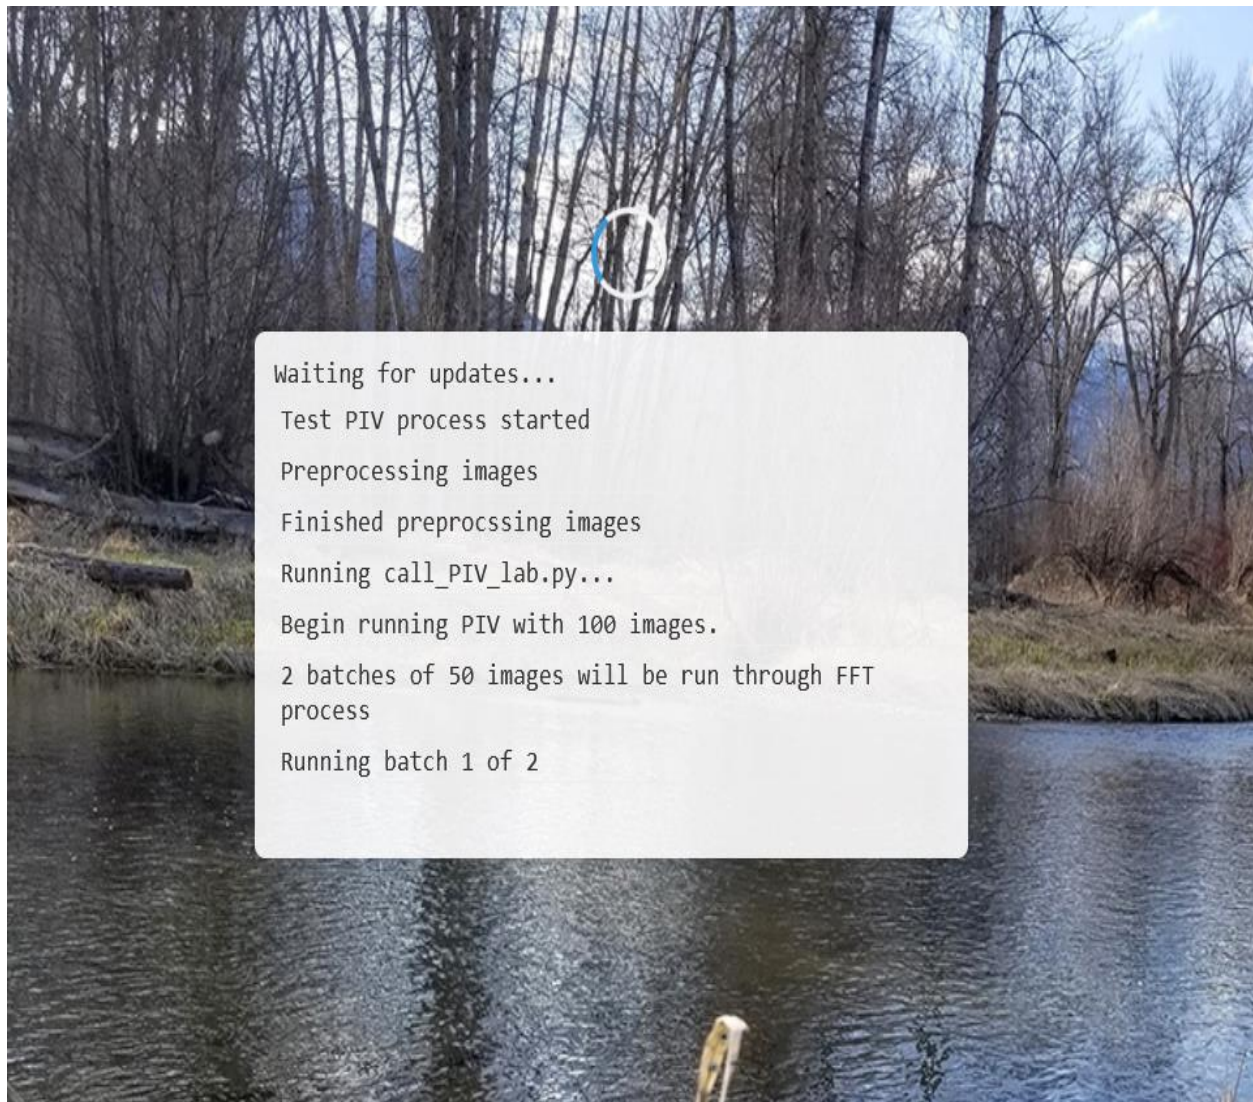

Figure 10 Example of the waiting screen when running a PIV test.
- During the test, you will be directed to a waiting screen that provides live updates on the calculation process – see Figure 10.